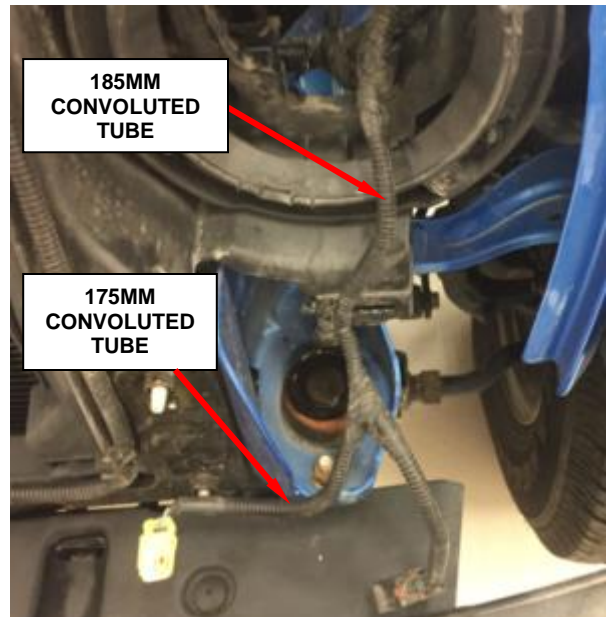

Figure 15 – Convoluted Tube
38. Remove and save the 175mm (7in) convoluted tube from the left front impact sensor wiring pigtail (Figure 15).
40. Remove and save the 185mm (7.5in) section of convoluted (Figure 15).